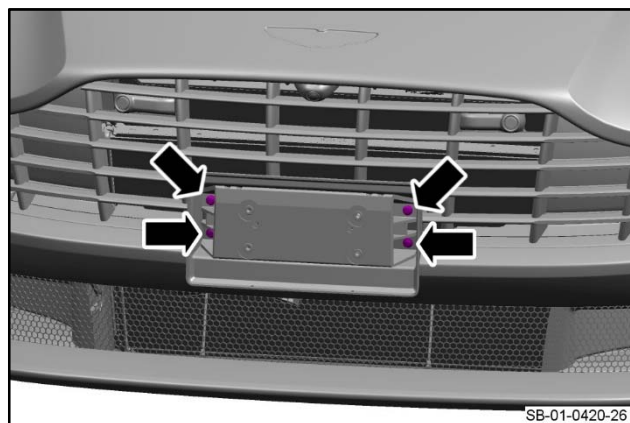

Figure 26
5. Install and torque the four bolts that attach the bolster assembly to the bolster studs to 9 Nm (refer to Figure 26).